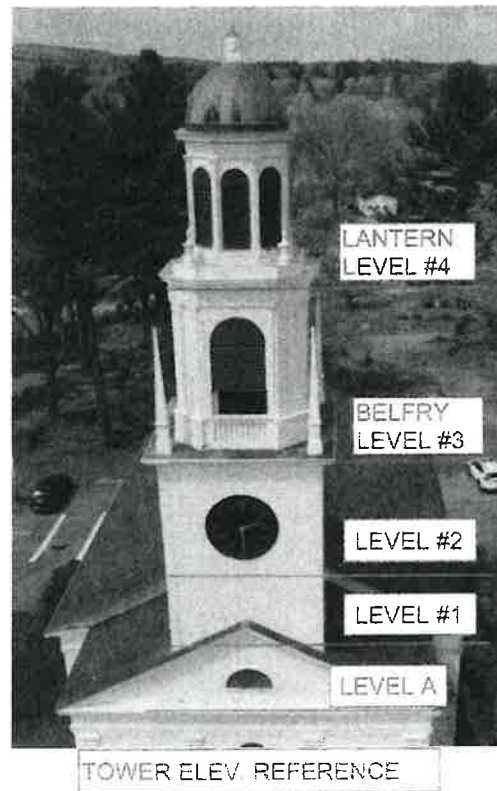

Figure 1: Tower Levels Reference Figure
The First Parish Church in Northborough has a wood framed tower that starts at Level A (attic space) and extends up four more levels. At the base of the tower, where the clock is present, there are two wood framed platforms along the interior, and a vinyl siding envelope along the exterior. At the belfry level, there is another platform that supports the bell and cradle within the tower, and the outside displays (4) wooden louvers, (4) wooden pinnacles, a decorative balustrade, and an EPDM rubber membrane roof. Level #4, the lantern level, has a less accessible platform along the interior where the majority of the cellular equipment is installed. The exterior of the lantern level shows (8) louvers along each octagonal face, (4) smaller wood pinnacles, and copper flashing at the flat and domed roof. Please refer to Figure 1 for the interior tower levels with respect to the tower envelope.